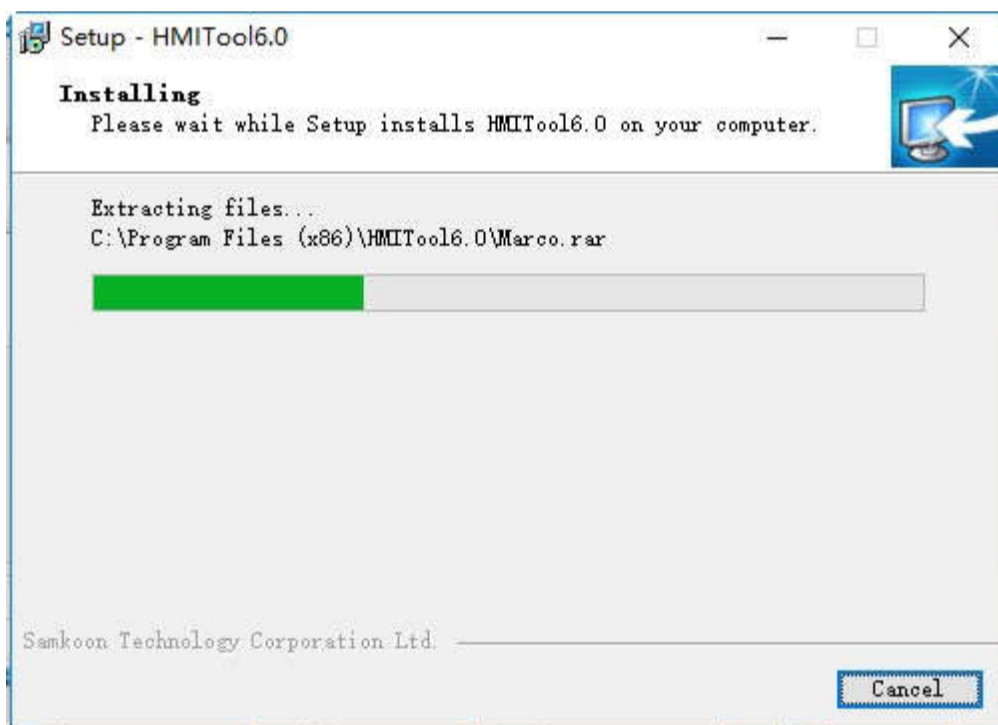

Figure 2-8 Installation Interface
- Installation Interface, Click Cancel to cancel the installation. As shown in Figure 2-8: